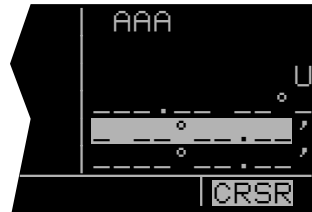
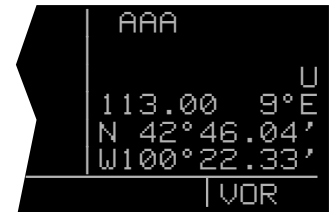

Figure 5-63
Figure 5-64
A user-defined VOR waypoint must contain an identifier, magnetic variation, latitude, and longitude. The magnetic variation may be manually entered or, if one is not entered, one will automatically be calculated and stored. In addition, a VOR frequency may be stored. The procedure for creating a VOR user waypoint is similar to that just described for creating an airport user waypoint. Begin by selecting the VOR type waypoints instead of the airport type waypoints. The VOR identifier can be one to three characters in length. A VOR user waypoint page that has not yet been defined by the user contains the user identifier at the top of the page and three lines of dashes (figure 5-63). The top line of dashes may be filled in with frequency and magnetic variation. The second line is for latitude and the third line is for longitude (figure 5-64). A user-defined VOR is stored as an "undefined" (U) class.